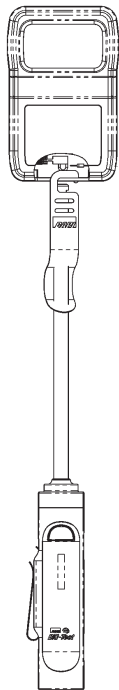

Fig. 31: Probe Clip Hanger used on a room sensor
- Room Sensor measurement is done by holding the Blü-Test probe directly under the sensor enclosure for 3 minutes or until the reading stabilizes. Body heat or breathing on the sensor is a major source of faulty readings, so holding the Blü-Test probe at the button end and standing away from the sensor is the best way to ensure a good measurement. The Probe Clip Hanger accessory (BA/PCH-1) simplifies this by holding the probe for you (Fig. 31).